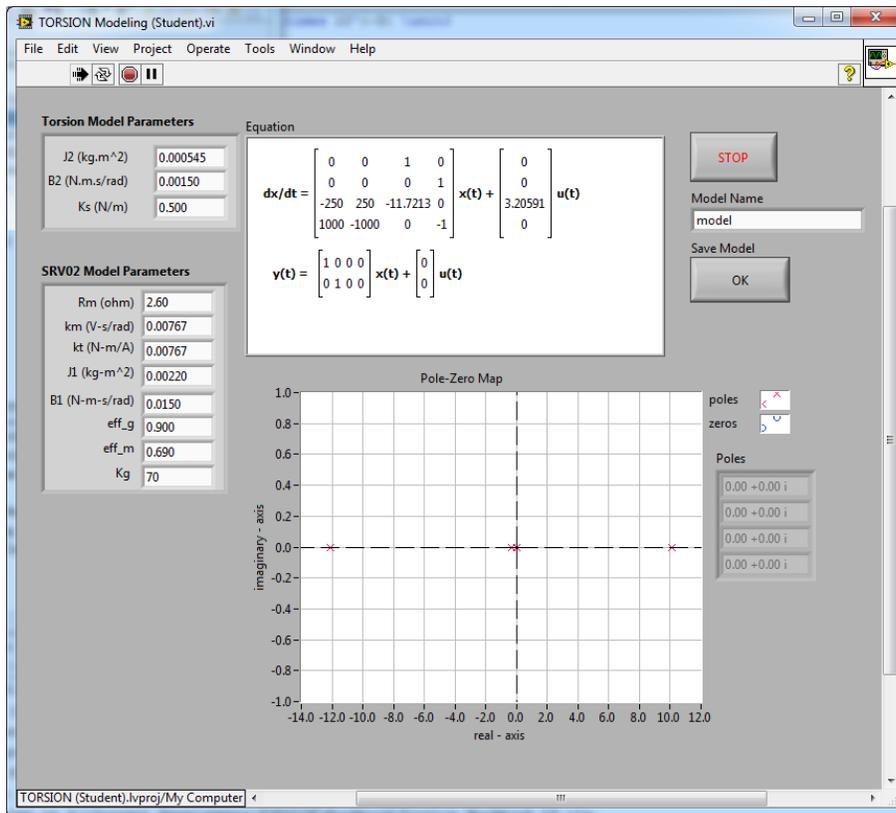

Figure 2.5: Modeling VI used to generate state-space model
The *TORSION Modeling (Student) VI* is shown running with default parameters in Figure 2.5. It is used to generate the state-space model of the 1 DOF Torsion based on the entered model parameters.
1. In the *TORSION (Student).lvproj*, open the *TORSION Model (Student).vi* found in the *Control Design and Simulation* folder. The front panel of the VI is depicted in Figure 2.5.